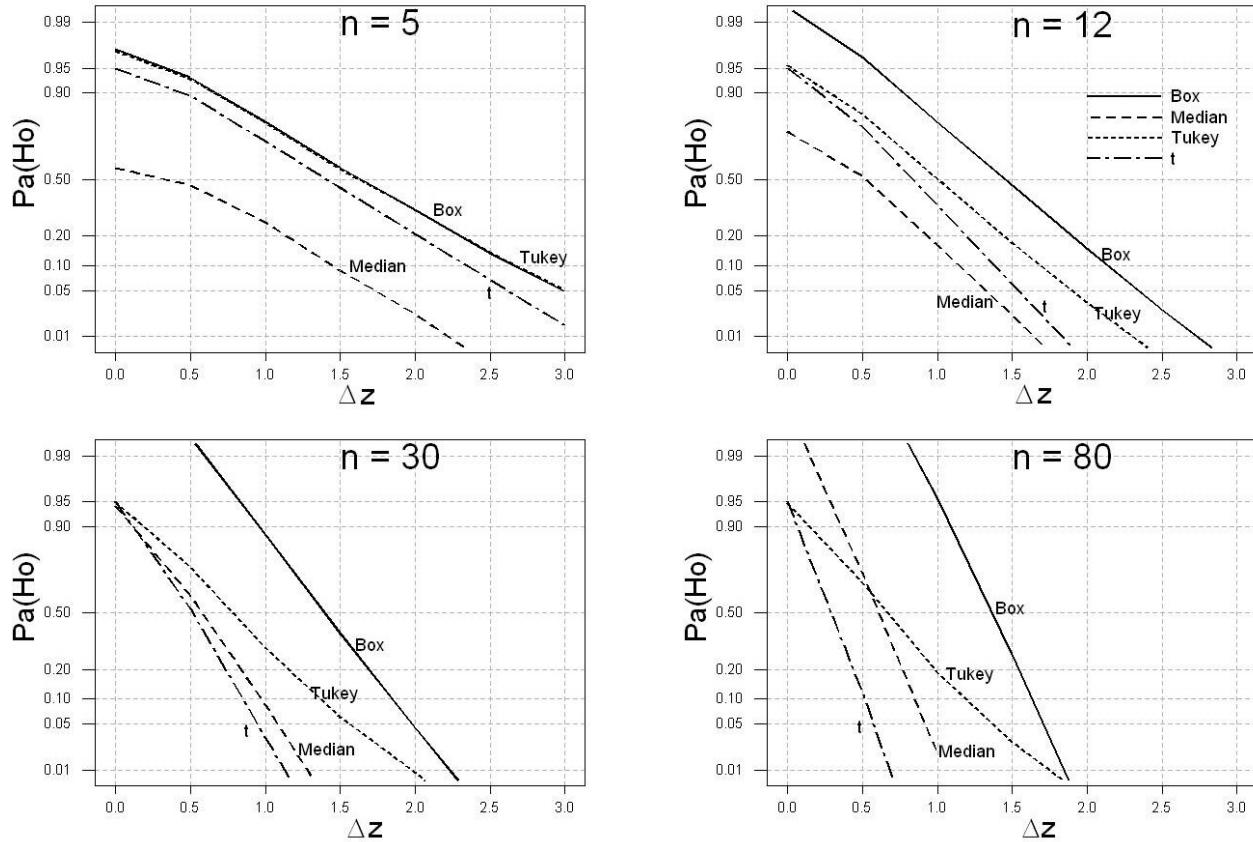

FIGURE 3.2. Operating characteristic curves for two-sample tests for location.
14. A MINITAB macro similar to the one created in Problem 3.12 was written to compare the performance of the two-sample t test, Tukey's quick test, and the two boxplot slippage tests. The macro considered 10,000 pairs of normal homoscedastic samples of size $n = 5, 12, 30$, and 80 with increasing differences between the two population means. The resulting approximate OC curves are shown in Figure 3.2. The OC curves labeled Box and Median correspond to the first and second boxplot slippage tests, respectively, and the horizontal scale (Δz) indicates the difference between the two population means in standard deviation units. That is, $\Delta z = 1$ corresponds to $|\mu_1 - \mu_2| = 1\sigma_x$.